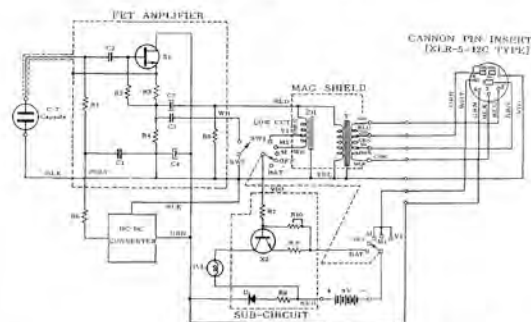

Figure-3 C-55 FET condenser microphone, schematic diagram FET circuit
3.3 FET circuit (see figure-3)